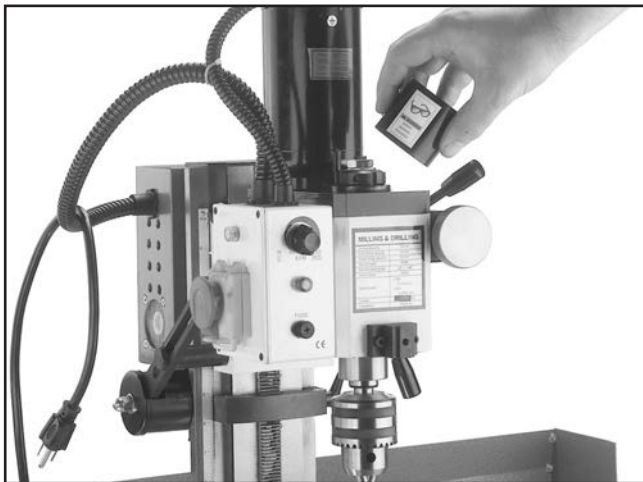

Figure 53. Removing mill/drill spindle cap.
2. Remove the mill/drill spindle cap as shown in **Figure 53**. *Note—if you cannot remove the cap off by pulling on it, give it a sideways bump with your hand.*